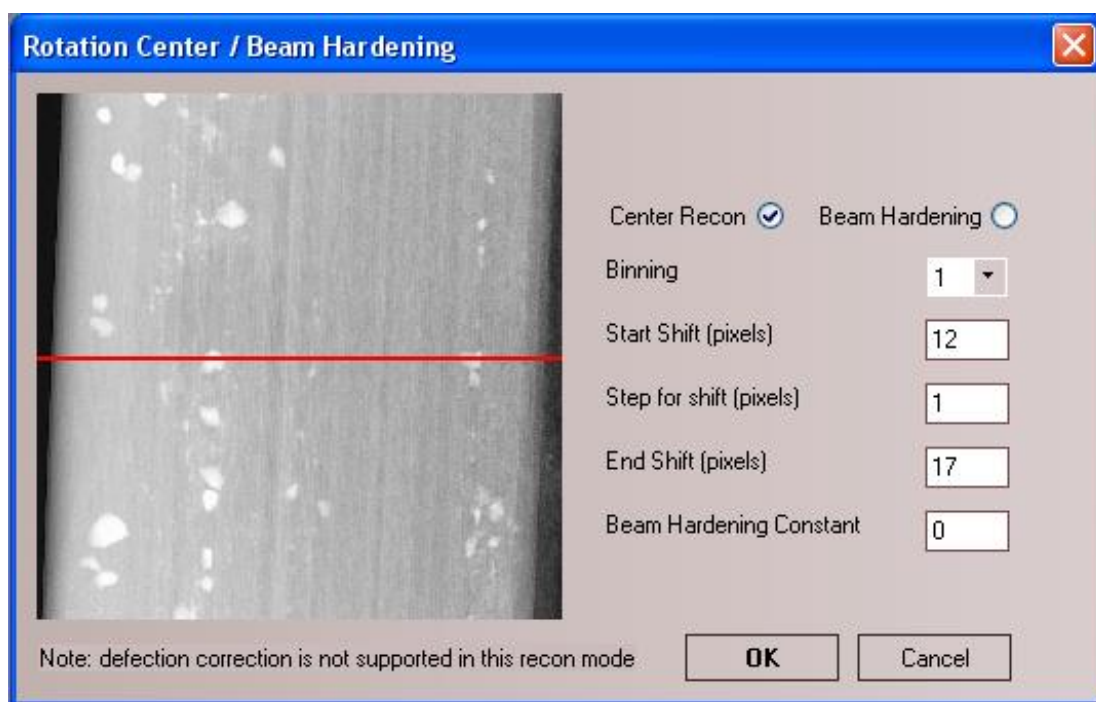

Figure 8-9 Rotation center/beam hardening dialog box
1. Click . The Rotation center/beam hardening dialog box opens. (Figure 8-9)